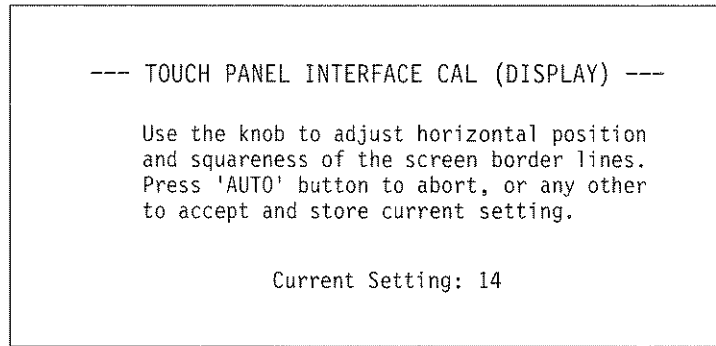

Figure 1-3: Touch screen calibration (display)
5. Press the **Select Line** button to make the selection to calibrate. The first touch screen calibration instructions are then displayed as shown in Figure 1-3.